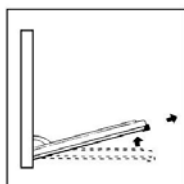

Fig 2
- Now, shutting the door slightly, you can lift it out by pulling out the hooks “A” as shown in figure 2.